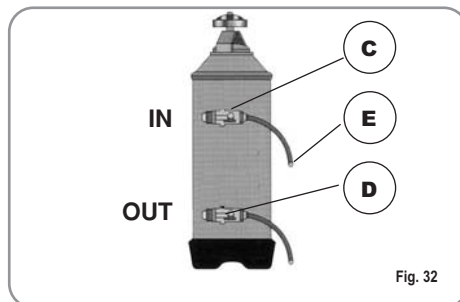

Fig. 32
- 1) Turn the machine off and place a container large enough to contain at least 5 litres under tube E (Fig. 32).